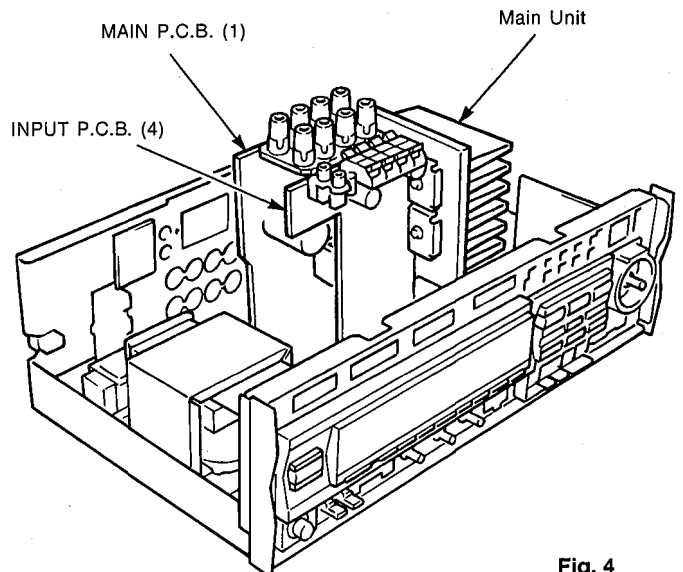

Fig. 4
- f. Place the Main Unit on its side as shown in Fig. 4.